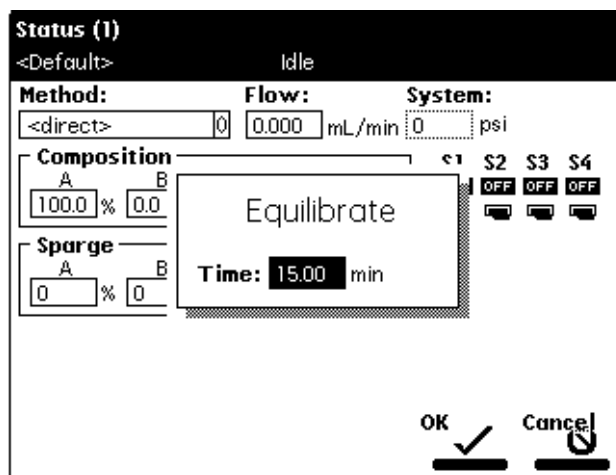

Figure 4-14 Equilibrate Dialog Box
4. Select **Equilibrate**, then press **Enter**. The Equilibrate dialog box appears (see Figure 4-14).